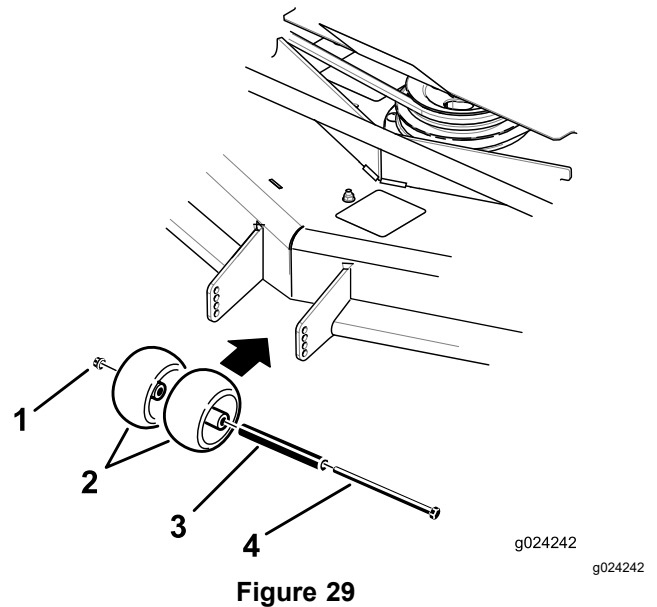
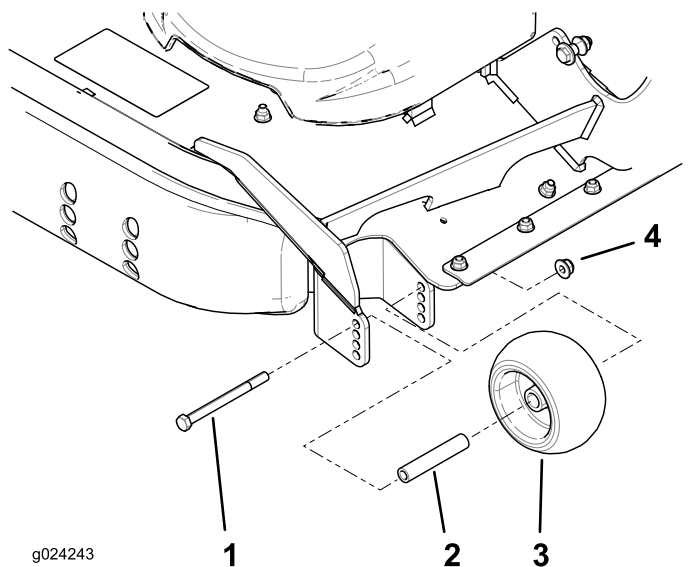

Figure 29
Figure 30
3. Adjust the anti-scalp rollers as shown in Figure 29 and Figure 30.